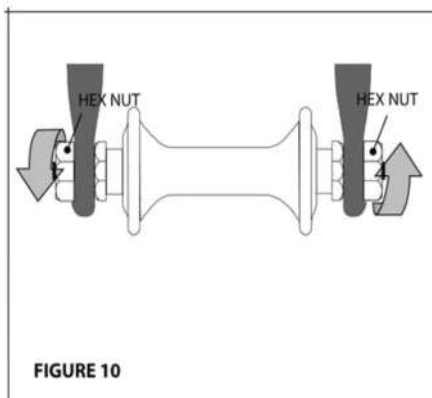

FIGURE 10
- Hex nuts or hex key bolts which are threaded on to or into the hub axle (bolt-on wheel fig. 10)